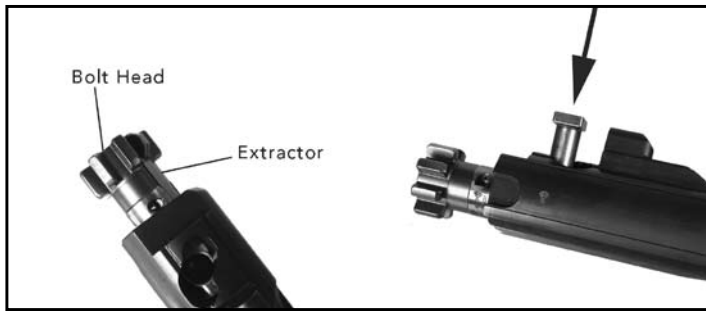

Fig. 59 – Bolt Carrier reassembly
- b. Insert the cam pin into the shaft of the bolt carrier, ensuring that the hole for the firing pin on the cam pin is aligned with the firing pin tunnels on both the bolt head and bolt carrier (Fig. 59).